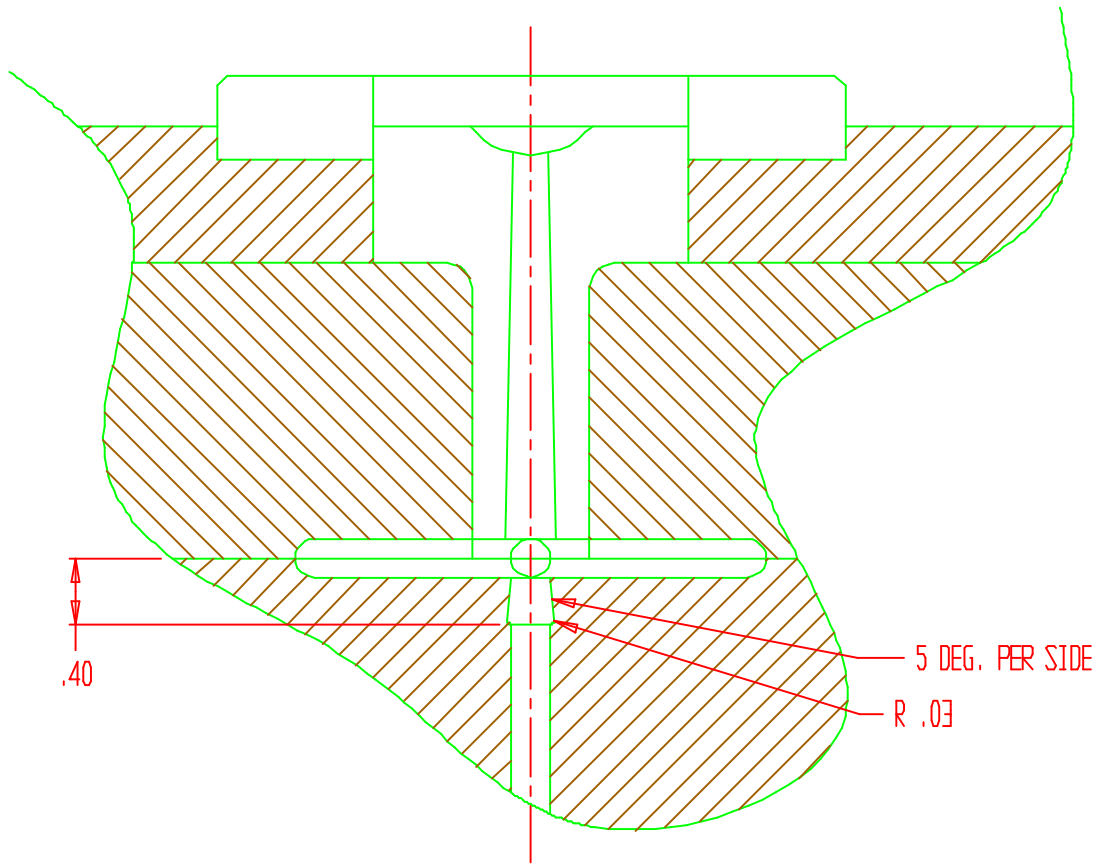

figure 4-5
- 4.4.5 Sprue puller is standard 5 degree back draft. See figure 4-5.